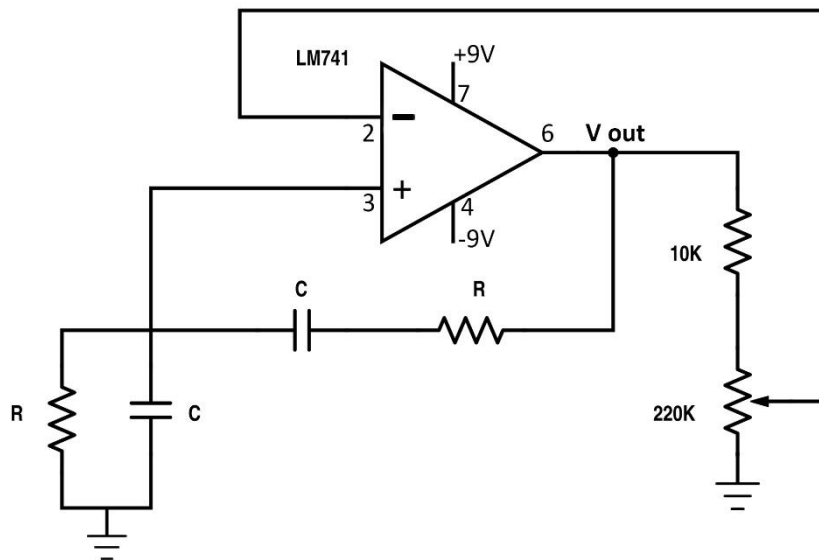

Figure 2: Wein Bridge Oscillator
1. Connect the Wein bridge oscillator circuit shown in Figure 2. Observe the variation of the shape of the output waveform when the potentiometer is varied. Adjust the potentiometer until a sinusoidal output signal is achieved. Record the output waveform and measure the periodic time for the following two cases.